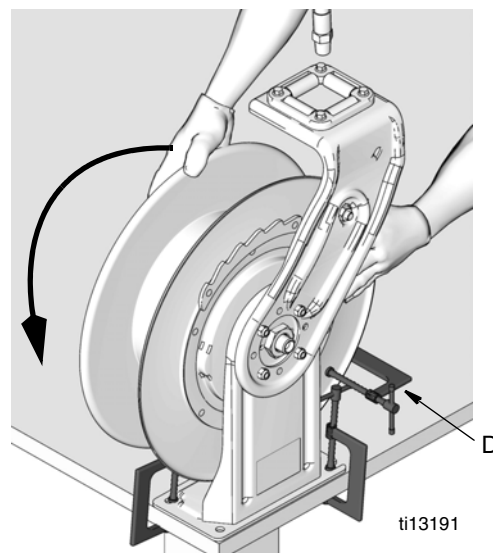

FIG. 11
2. Before you install hose, attach a C-Clamp (D, FIG. 11) to reel flange to help prevent the reel from unintentionally becoming unlatched and spinning freely.
4. Wearing heavy gloves, firmly grab the outside edge of the reel flange with both hands. Wind the reel the proper number of turns (See reference table following Step 1), rotating it in the direction shown in FIG. 11.
8. Attach hose end (B) to hose reel swivel (A). Then carefully remove C-Clamp (D) (FIG. 11).